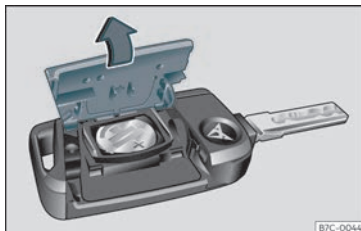

Fig. 67 Vehicle key: opening the battery compartment cover.
- Remove the cover from the back of the vehicle key >>> Fig. 67 in the direction of the arrow >>> ⓘ.
- Fit the cover as shown >>> Fig. 67, pressing it onto the vehicle key casing in the opposite direction to that shown by the arrow until it clicks into place.